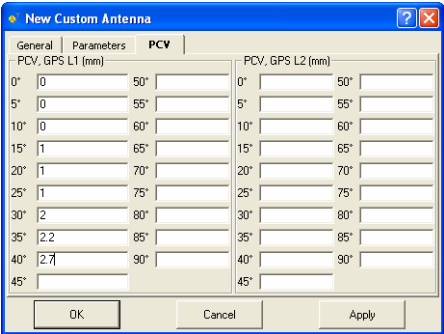

Figure 5-12. New Custom Antenna – Phase Center Variation Tab
6. On the *PCV* tab of the *New Custom Antenna* dialog box, enter parameters for the antenna phase center variation (Figure 5-12).